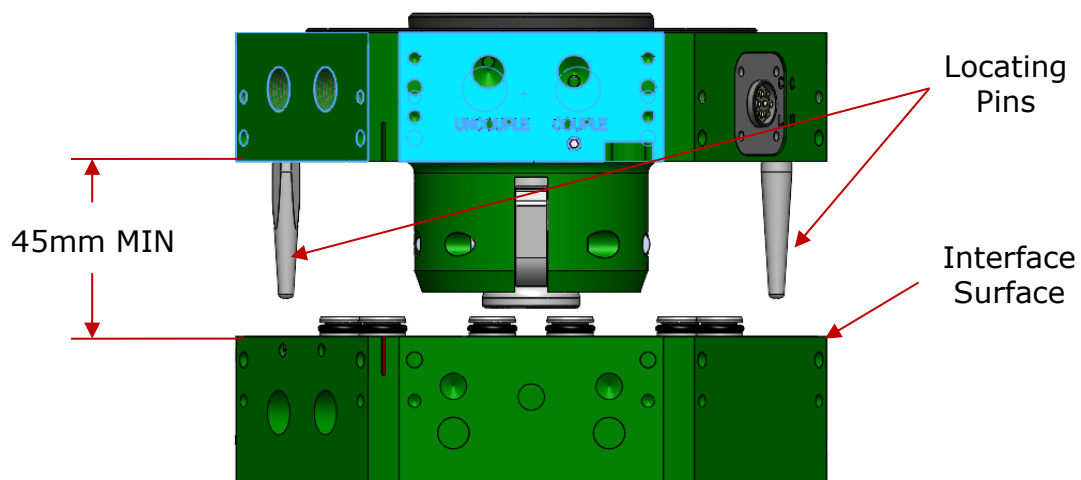

Figure 6.2-1. E100 Tool Changer – Docking Orientation
1. Orient the Robot Side and Tool Side so that the centerline axes are aligned, and the interface surfaces are parallel. Maintain approximately 45mm minimum separation between the Robot Side and Tool Side interface surfaces (Figure 6.2-1).